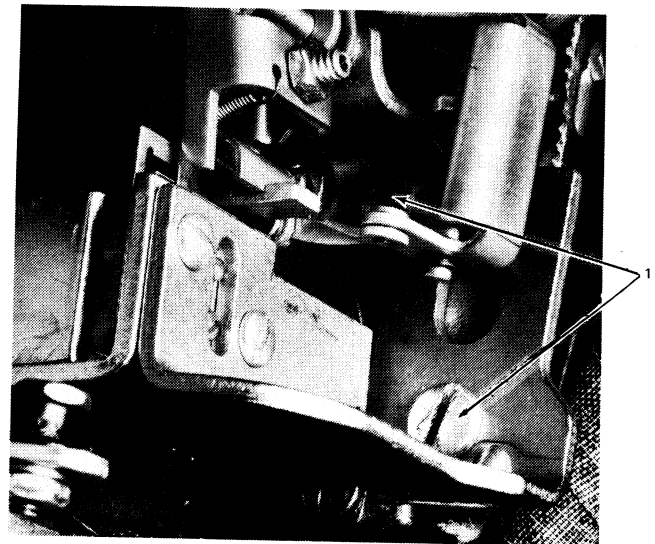

Figure 4-44. Print Feedback Removal (Printer Tilted Up)
6. Loosen, but do not remove, the two screws that mount the velocity control assembly bracket (No. 1, Figure 4-44).